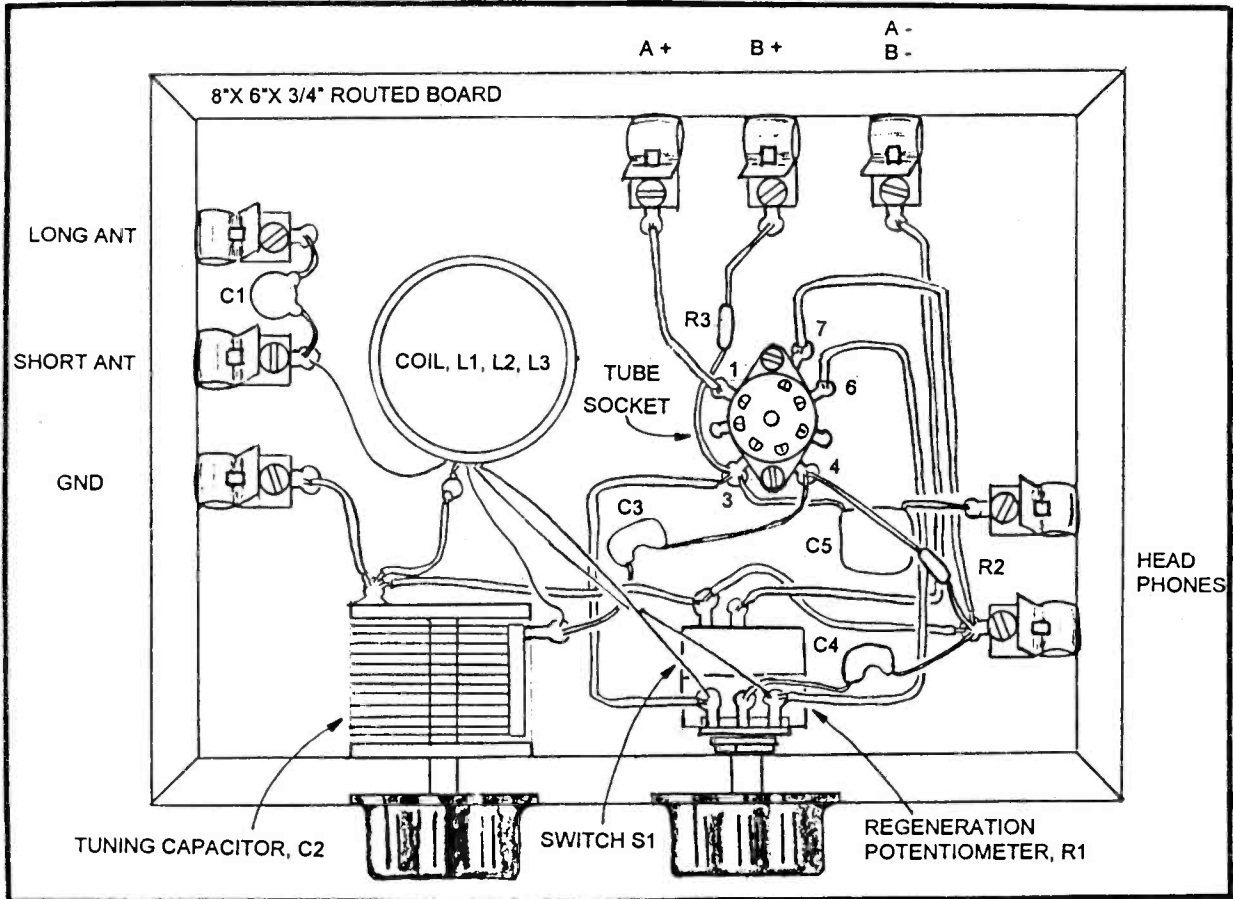

Figure 3: Armstrong One-Tube Radio—TOP VIEW
STEP 7. (Refer to Photos #6, 7, and 8 and Figures 3 and 4) Temporarily place the tuning capacitor, coil, potentiometer, tube socket and fahnestock clips on the board and lightly outline their locations with a pencil. Use super glue to attach the coil to the board with the 20th turn tap closest to the board and with the leads facing the front of the set. Cut a strip of double-sided foam mounting tape to the size of the capacitor base and press into place on the board. Place the capacitor on the mounting tape and press down hard, being careful not to bend the capacitor plates. Install the antenna, ground, battery and headphone fahnestock clips with
stall screws on the other ends of the standoffs. Bend the tube socket lugs out, so they will be accessible once the socket is mounted on the board. Use a drop of super glue on each standoff to mount the tube socket to the board, oriented as shown in Figure 3 and Photo #6.
STEP 8. (Refer to Photos #7 and 8 and Figures 3, and 5) Begin wiring the set by scraping the enamel off of the ends of the coil lead wires and coil tap.